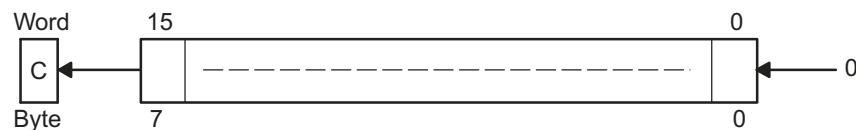

Figure 3-15. Destination Operand – Arithmetic Shift Left
The destination operand is shifted left one position as shown in Figure 3-15. The MSB is shifted into the carry bit (C) and the LSB is filled with 0. The RLA instruction acts as a signed multiplication by 2.